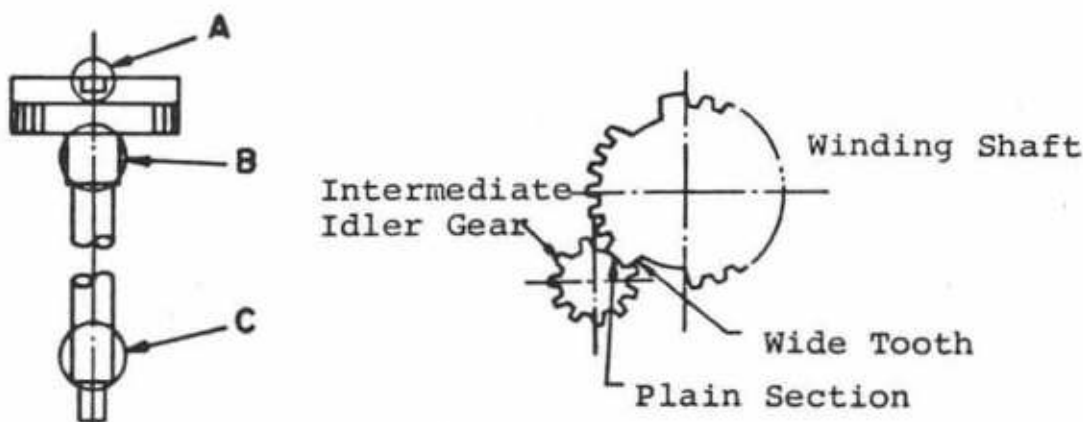

Fig. 2-17
4. Mesh one of the wide teeth on the winding shaft with the plain area on the intermediate Idler Gear (CS2-0364-000) as shown in figure 2-17.